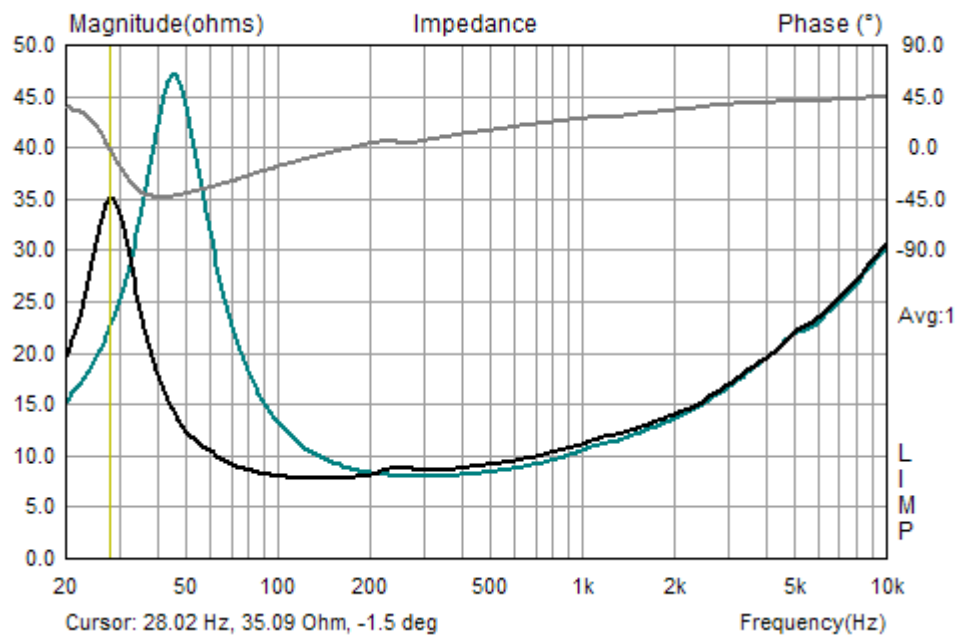

Figure 5.5 Impedance curves (the one with lower resonance frequency is obtained by adding mass to the membrane)
2. impedance data measured with an additional mass set on the membrane (as in Fig. 5.5),